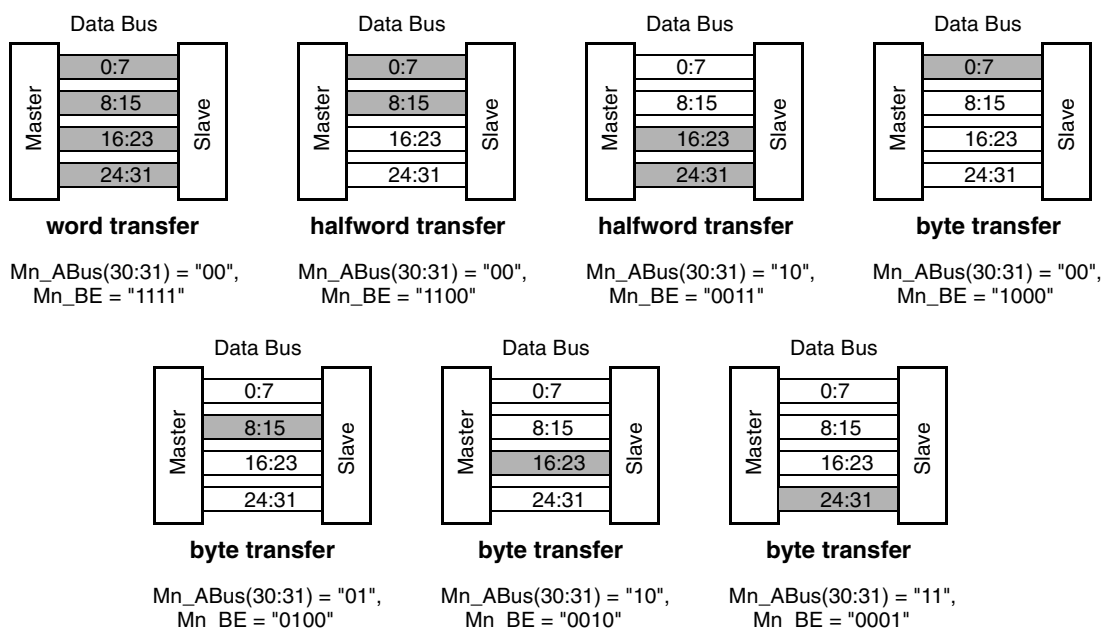

Figure 1-1: Byte lane usage for aligned transfers
- All OPB devices (masters and slaves) are byte-enable devices. These devices do not support the legacy data transfer signals and therefore do not support dynamic bus sizing. OPB masters do not mirror data to unused byte lanes. See Figure 1-1 for the byte lane usage for aligned transfers.